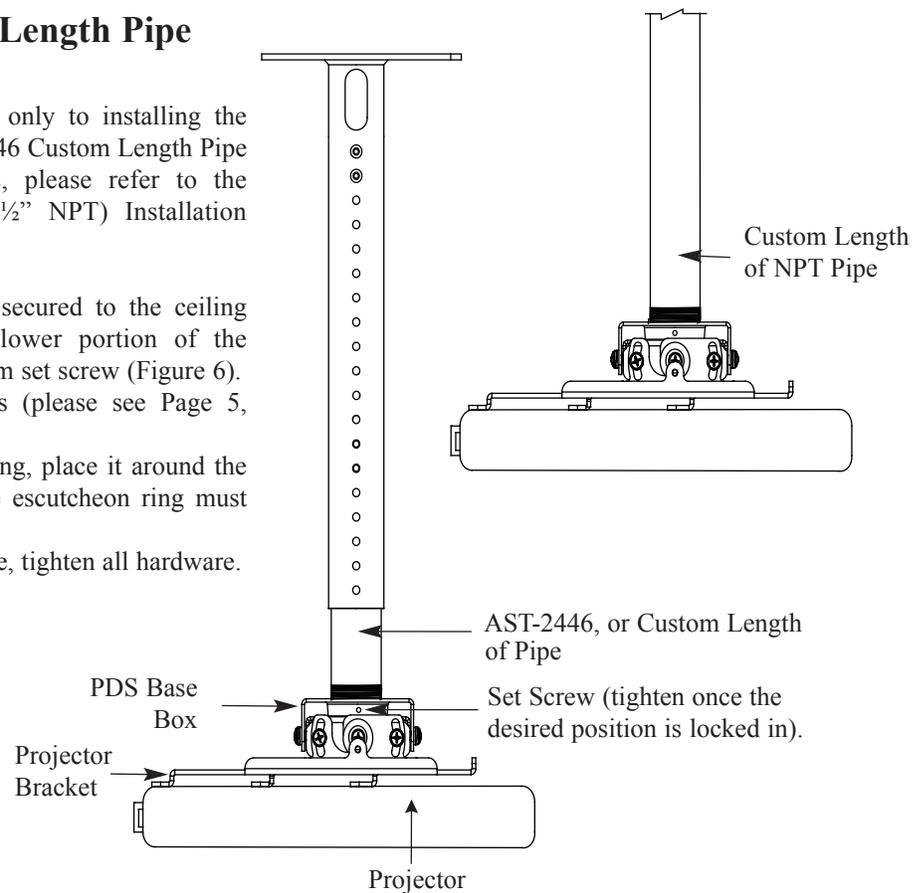

Figure 6
1. After the upper pipe has been properly secured to the ceiling structure, screw the base box to the lower portion of the AST-2446 and secure it with the M6 x 8mm set screw (Figure 6).